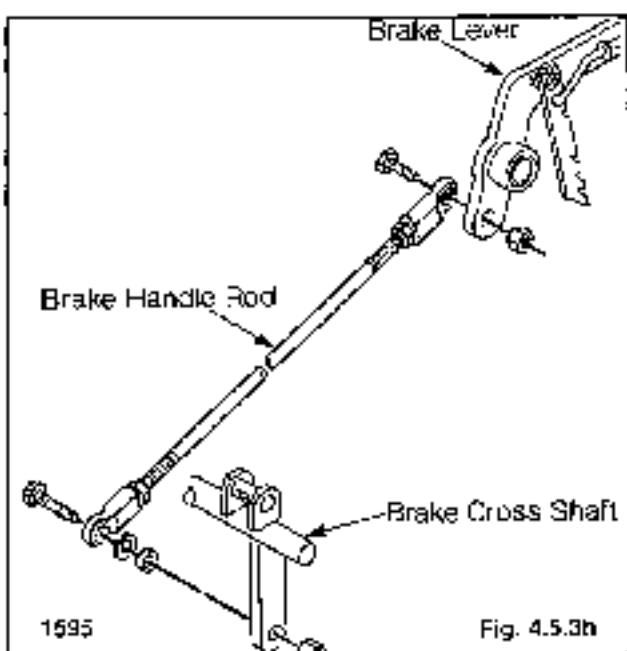

Fig. 4.5.3h
12. Remove the brake handle rod from the brake cross shaft and the brake lever (fig. 4.5.3h).